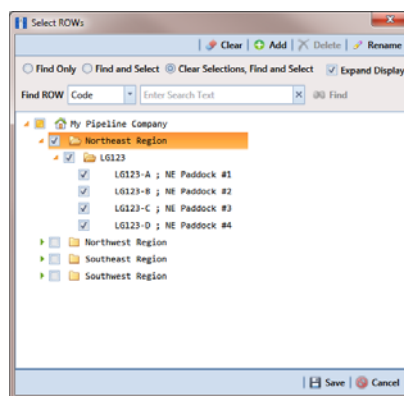

Figure 3-74. Select ROWs
- 1 Click **File > Select ROWs** to open the *Select ROWs* window. Select one or more pipeline segments and then click  **Save** to close the window (Figure 3-74).
- 1 Click **File > Select ROWs** to open the *Select ROWs* window. Select one or more pipeline segments and then click  **Save** to close the window (Figure 3-74, page 121).